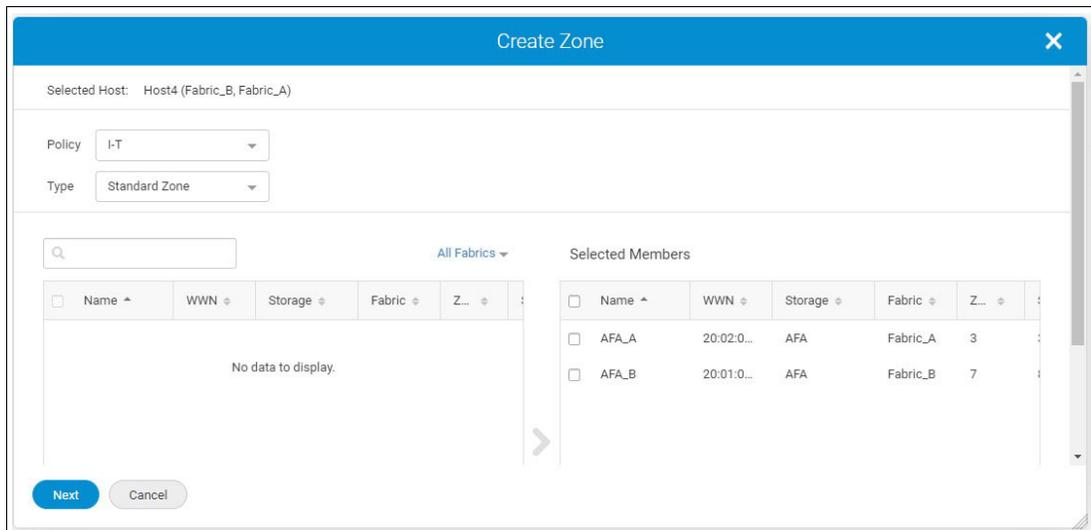

Figure 5-58 A server administrator connecting HBA ports to multiple fabrics (multipathing)
3. Select storage ports from the required fabric, and then add them to the Selected Members table. You can add ports from multiple fabrics one by one, and then click **Next** to name the zones (Figure 5-58).